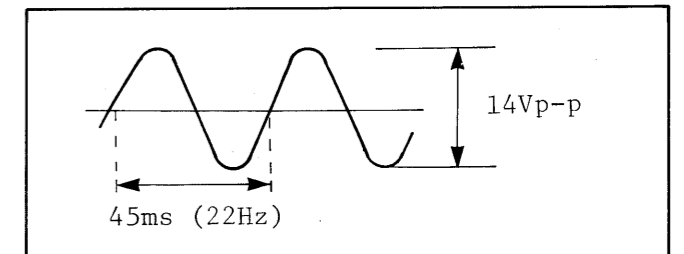

Fig. 29
- Adjust LFO RATE VR1 for 45ms. (Fig. 29)
- Adjust DCO LFO GAIN VR2 for 14Vp-p. (Fig. 29)